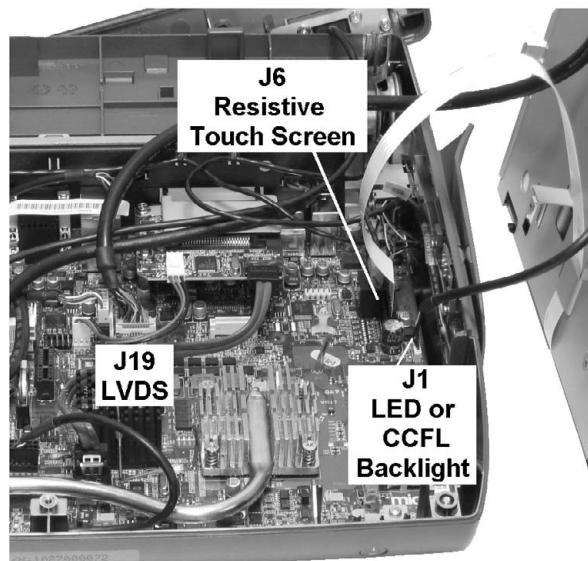

Figure 3-44: Installing the LCD/Touchscreen Cables
3. Place the LCD/Touchscreen Assembly to the right of the base and connect the interface cables as shown in Figure 3-44.